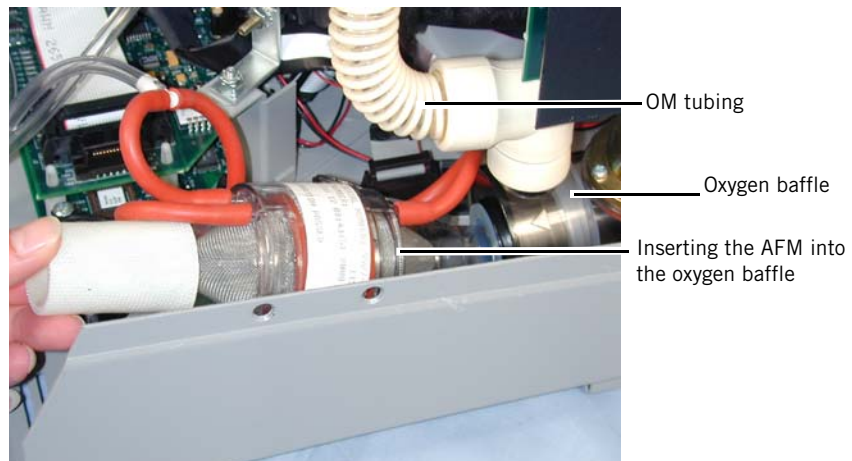

Figure 8-9: Installing the AFM
7. Carefully insert the AFM into the oxygen baffle outlet until the AFM is aligned with its three mounting posts on the bottom enclosure, then press on the AFM circuit board to secure the AFM in place (Figure 8-9).